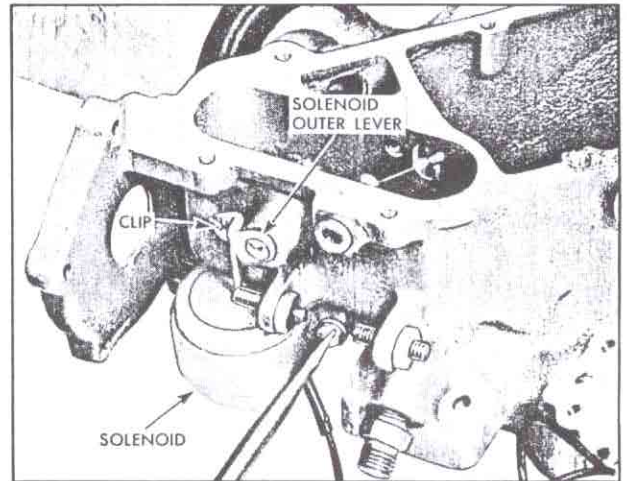

Fig. 146—Installing Solenoid and Outer Lever
4. Insert solenoid shaft through hole in solenoid outer lever (fig. 146) and connect with hairpin clip. Then insert shaft of solenoid outer lever into hole in fuel meter casting and secure the solenoid assembly to the fuel meter with two screws.